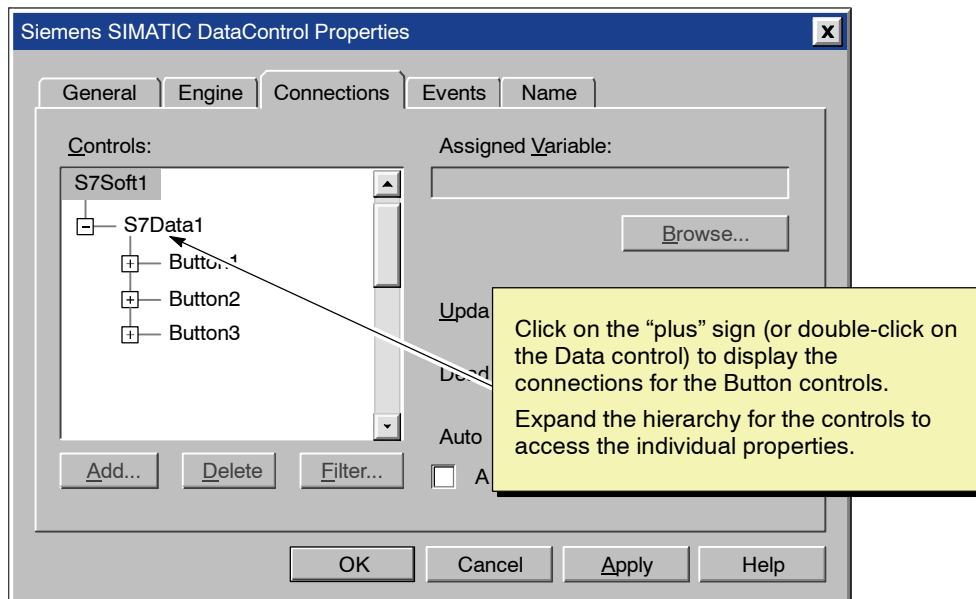

Figure 3-14 Accessing the Connections for the SIMATIC Controls
2. If the controls and properties are not already displayed, expand the hierarchy for S7Data1. See Figure 3-14.